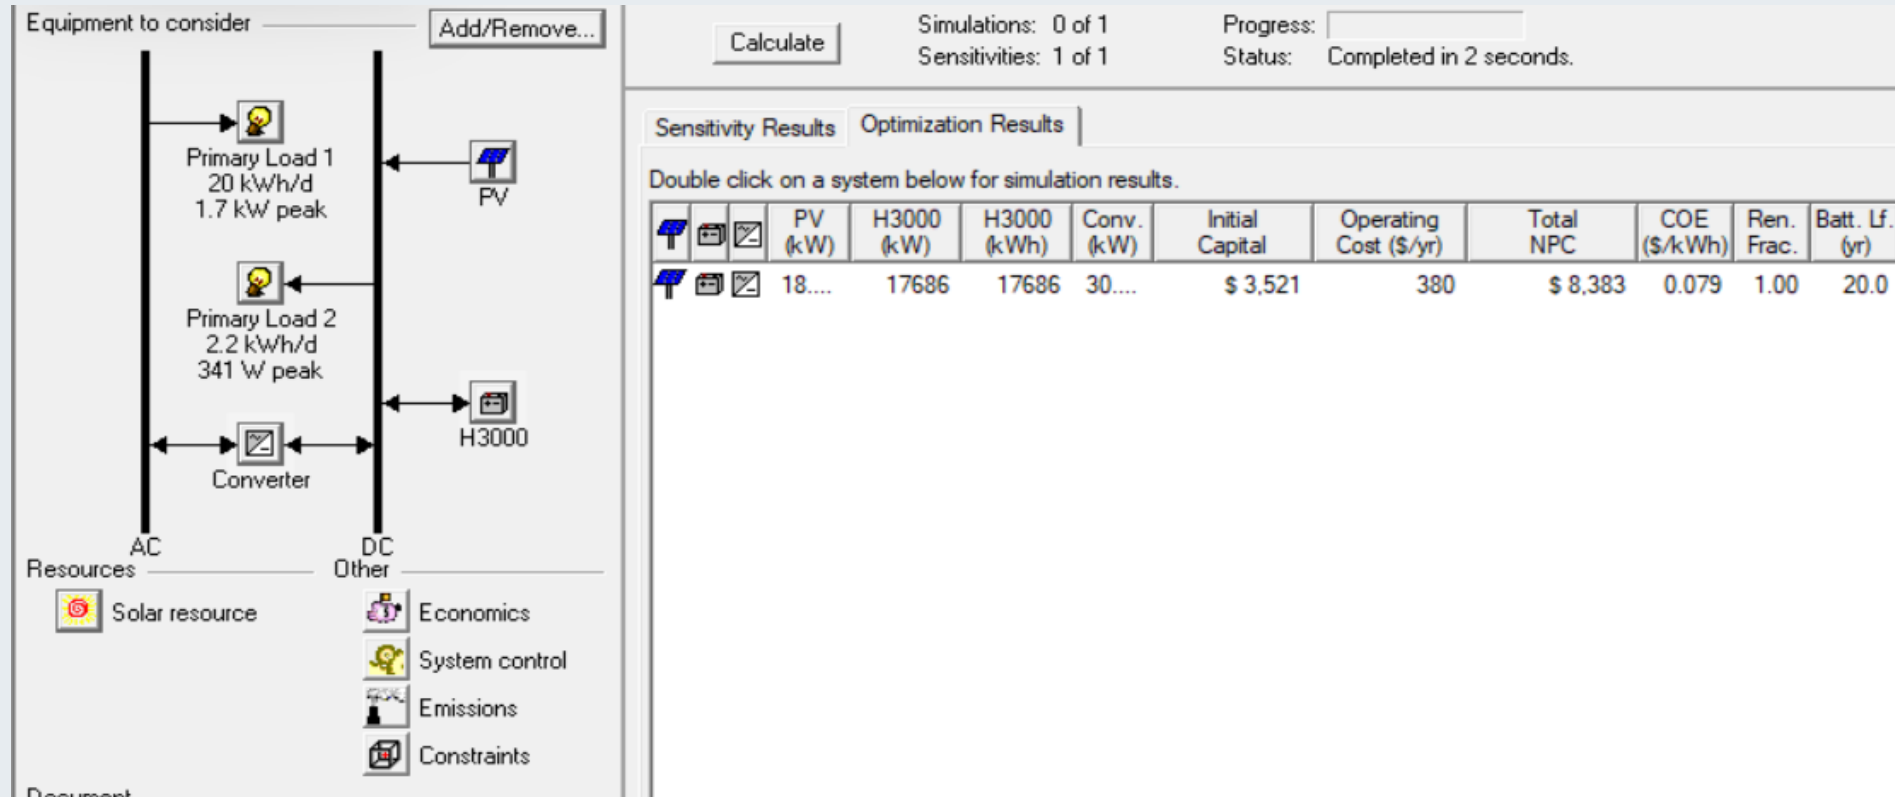

Figure 9 The overall HOMER model and results for initial case
- Finally, the homer optimization overall model and results for initial estimation is given in Fig.9